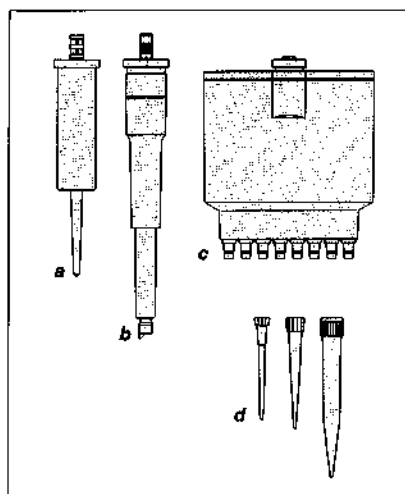

Fig. 3: Dispensing components
2.2 The dispensing components (Fig. 3)